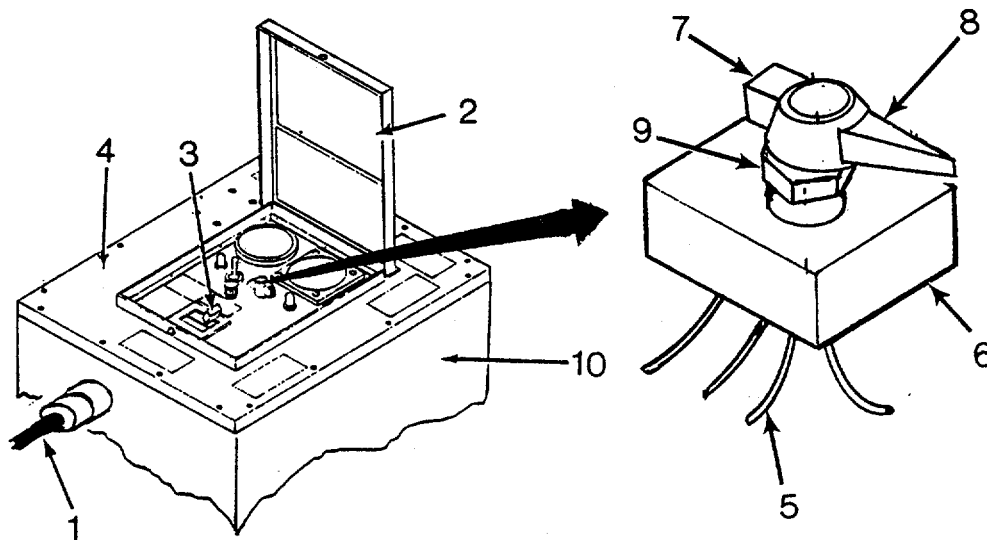

Figure 4-22. Replacing Phase Switch, Power Distribution Box Assembly
- d. Repair by replacing Phase Switch. (See figure 4-22.)
- (1) Request generator operator shut down generator and disconnect main power cable (1).
- (2) Raise control panel cover (2) and request Module C supervisor place circuit breaker (3) in OFF position.
- (3) Remove control panel assembly (4). (See 23a. above).
- (4) Tag and unsolder terminal wires (5) from phase switch (6).
- (5) Loosen screw (7) and remove knob (8).
- (6) Remove nut (9) and phase switch (6).
- (7) Place replacement phase switch (6) in position and secure with nut (9).
- (8) Place knob (8) on phase switch (6) and tighten screw (7).
- (9) Solder terminal wires (5) to phase switch (6) and remove tags.
- (10) Secure control panel assembly (4) to power distribution box assembly (10). (See 23a. above).